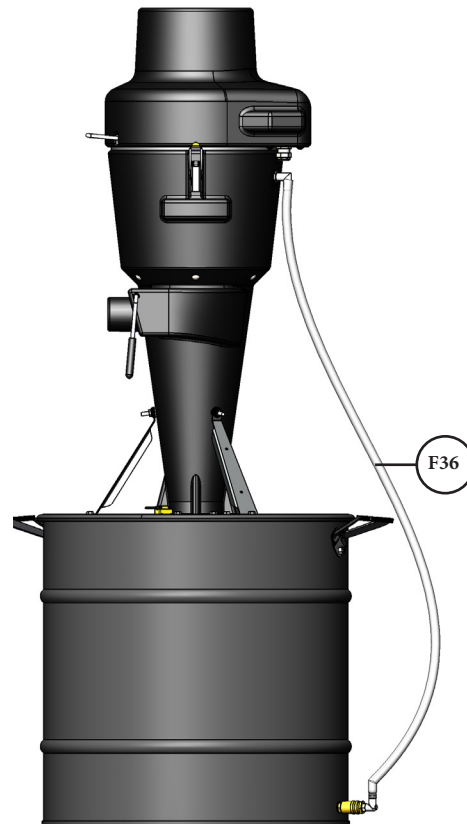

FIG. 15
Install the Clear Vinyl Tubing (F36) onto the Nylon Elbow (F28) on the Cone (B) with the Nylon Elbow (F29) on the Drum (D). [FIG. 15]